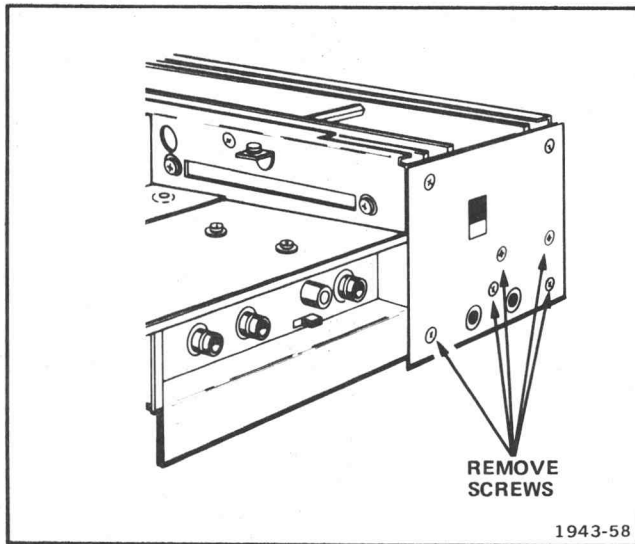

Fig 4-11
3. Remove five screws from the side panel and remove the side panel (see Fig. 4-11).